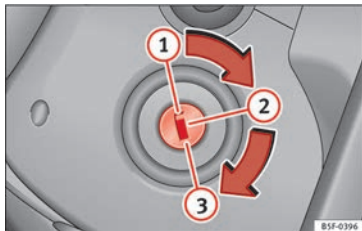

Fig. 191 Ignition key positions.
If the engine does not immediately start up, interrupt the starting process and try again after 30 seconds. To start the engine again, return the key to position **» Fig. 191 1**.
- Turn the ignition key to position **0** **»» Fig. 191 1**.
- Remove the key from the ignition in position **0** **»» Fig. 191 1** **»» ⚠**.